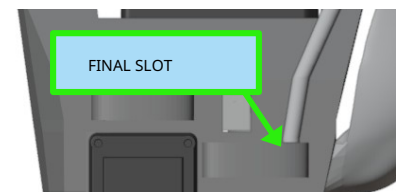

Figure 5.21: Inserting tube into the final slot (rear view)
2. Take the remaining part (on the back of the skeleton) and insert it into the final slot shown in figure 5.21 .